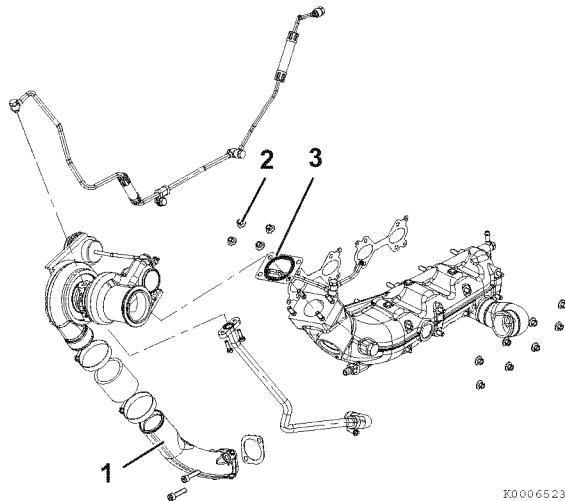

Figure 9-4
- Apply a light coating of copper anti-seize to turbocharger bolts (2, **Figure 9-4**).
- Install turbocharger to exhaust manifold with a new gasket (3, **Figure 9-4**). Tighten bolts to 23 N·m (204 in.-lb).
- Connect charge air pipe (1, **Figure 9-4**) and tighten clamps securely.